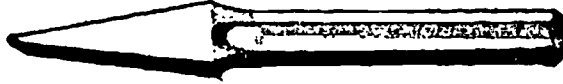

Fig. 3. Round Nose Chisel
c. Round Nose Chisel: The round nose chisel (Fig.3) has a rounded cutting edge and is used for cutting u-shaped grooves and chipping filleted corners.